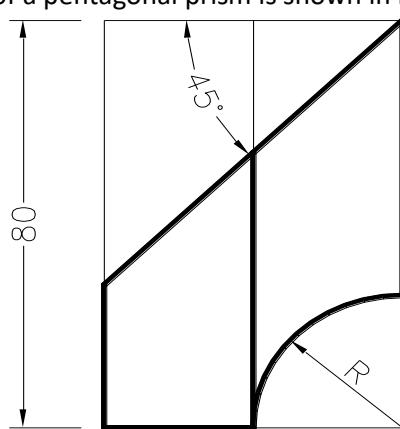

Fig.3
51. Draw the development of the lateral surfaces of the hexagonal prism as shown in figure3.